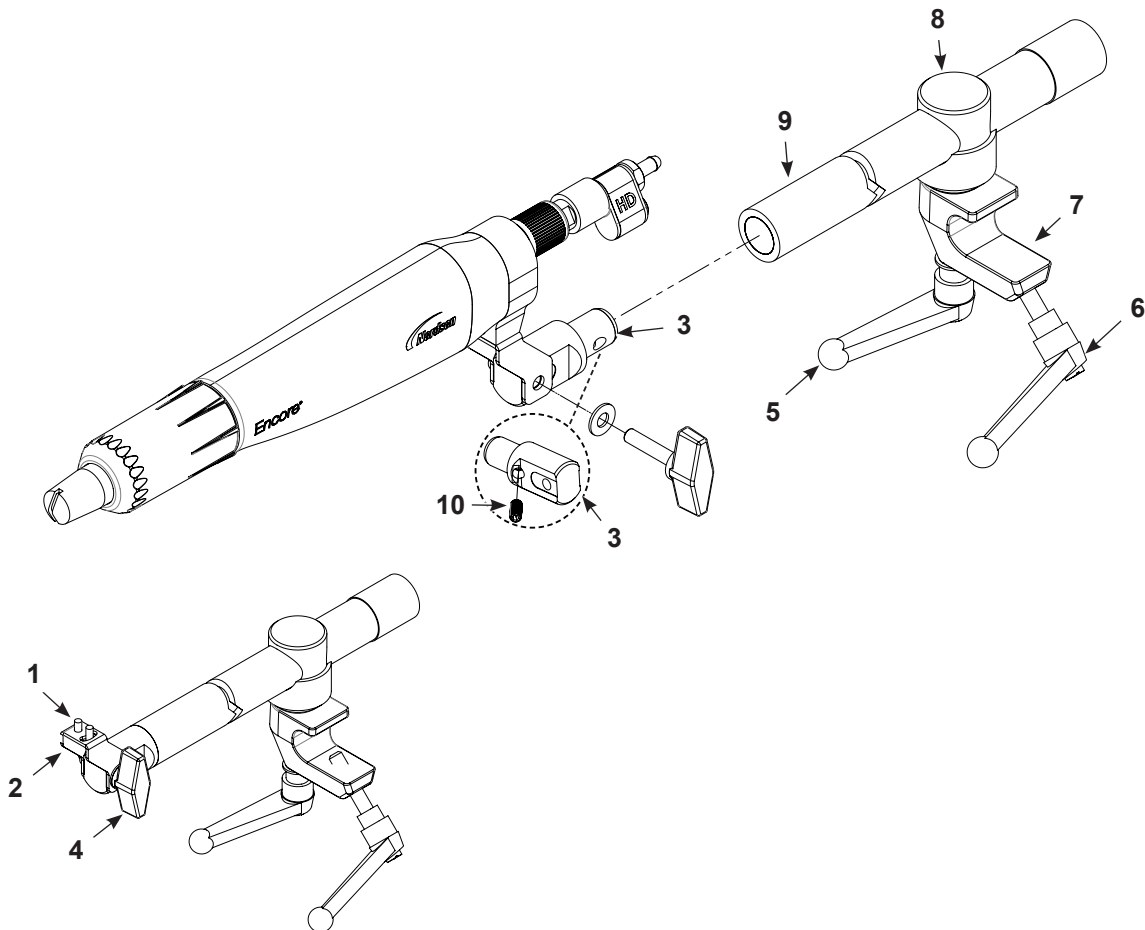

Figure 3-5 Bar-Mount Spray Gun Mounting
7. See Figure 3-5. Install the spray gun bar-mount adapter (3) into the end of the gun bar (9) and secure it by tightening the set screw (10) with 4 mm hex key.
- To move the spray gun tip from side to side, loosen the button screws (1).
- To tilt the spray gun tip up or down, loosen the tilt knob (4).
- To rotate or adjust the gun bar on the locking body (8), loosen the rotate handle (5).
8. To mount the spray gun on a fixed spray gun stand, oscillator, or reciprocator, position the clamp (7) on a 1 in. mounting bar and tighten the clamp handle (6).